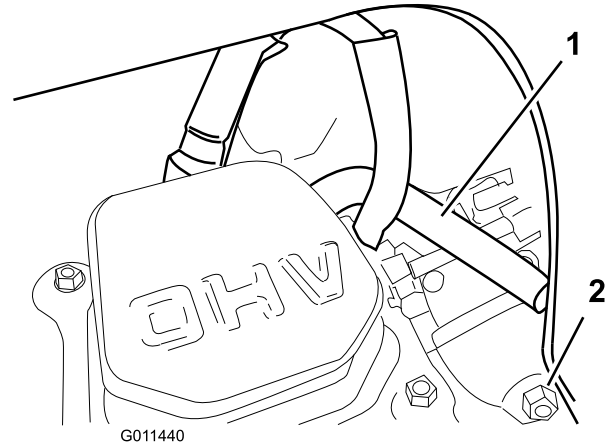

Figure 34
Note: Ensure that the breather tube is routed above the spark plug wire as shown in Figure 34.
6. Drain the fuel in the carburetor through the carburetor drain bolt (Figure 34) into an approved gasoline container.